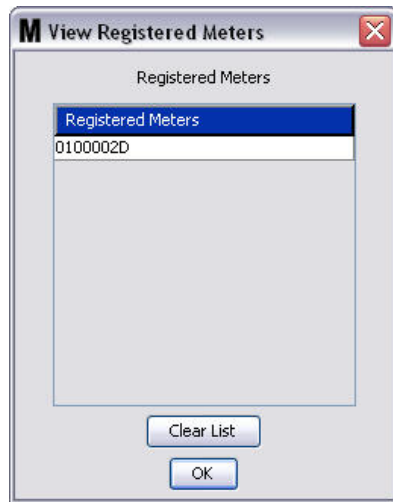

FIG. 121
- **LINK/UNLINK button** - When all parameters on the Meter Profile screen have been completed, click the Link button to display the Meter Profile/ID Assignment screen shown in FIG. 121. From the list of registered Meters, select a meter to associate the profile to from the list. Click OK to close the screen and save the changes.